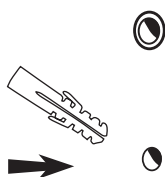

Figure 2 – Insert masonry anchors.
3. Fully insert masonry anchors (B). Tap in with hammer if required. See Figure 2.